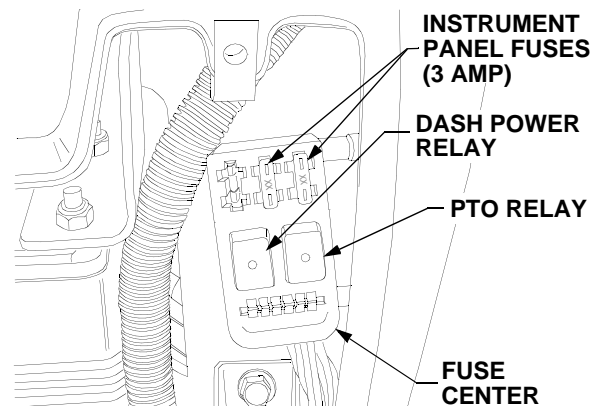

Figure 39
- Pull the two fuses from the fuse center and check their condition. Replace a blown fuse with the same capacity fuse (3 Amp). Refer to Figure 39.
The PTO relay and dash power relay, located in the fuse center, maintain power to each of those circuits. If one of the circuits is not functioning properly, have your dealer electrically check the relay. See Figure 39.